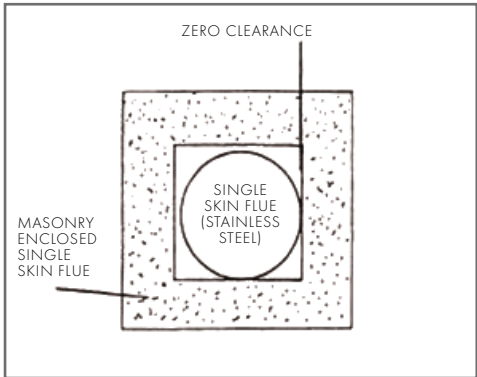

FIGURE 3B
4.2. Masonry Flue Enclosures (Fig 3B) 6
4.2. MASONRY FLUE ENCLOSURES (FIG 3B)
Where flue is to be fully enclosed in masonry or other non-combustible material, only the single skin stainless steel active flue is required (refer "4.2. Masonry Flue Enclosures (Fig 3B)" on page 6).